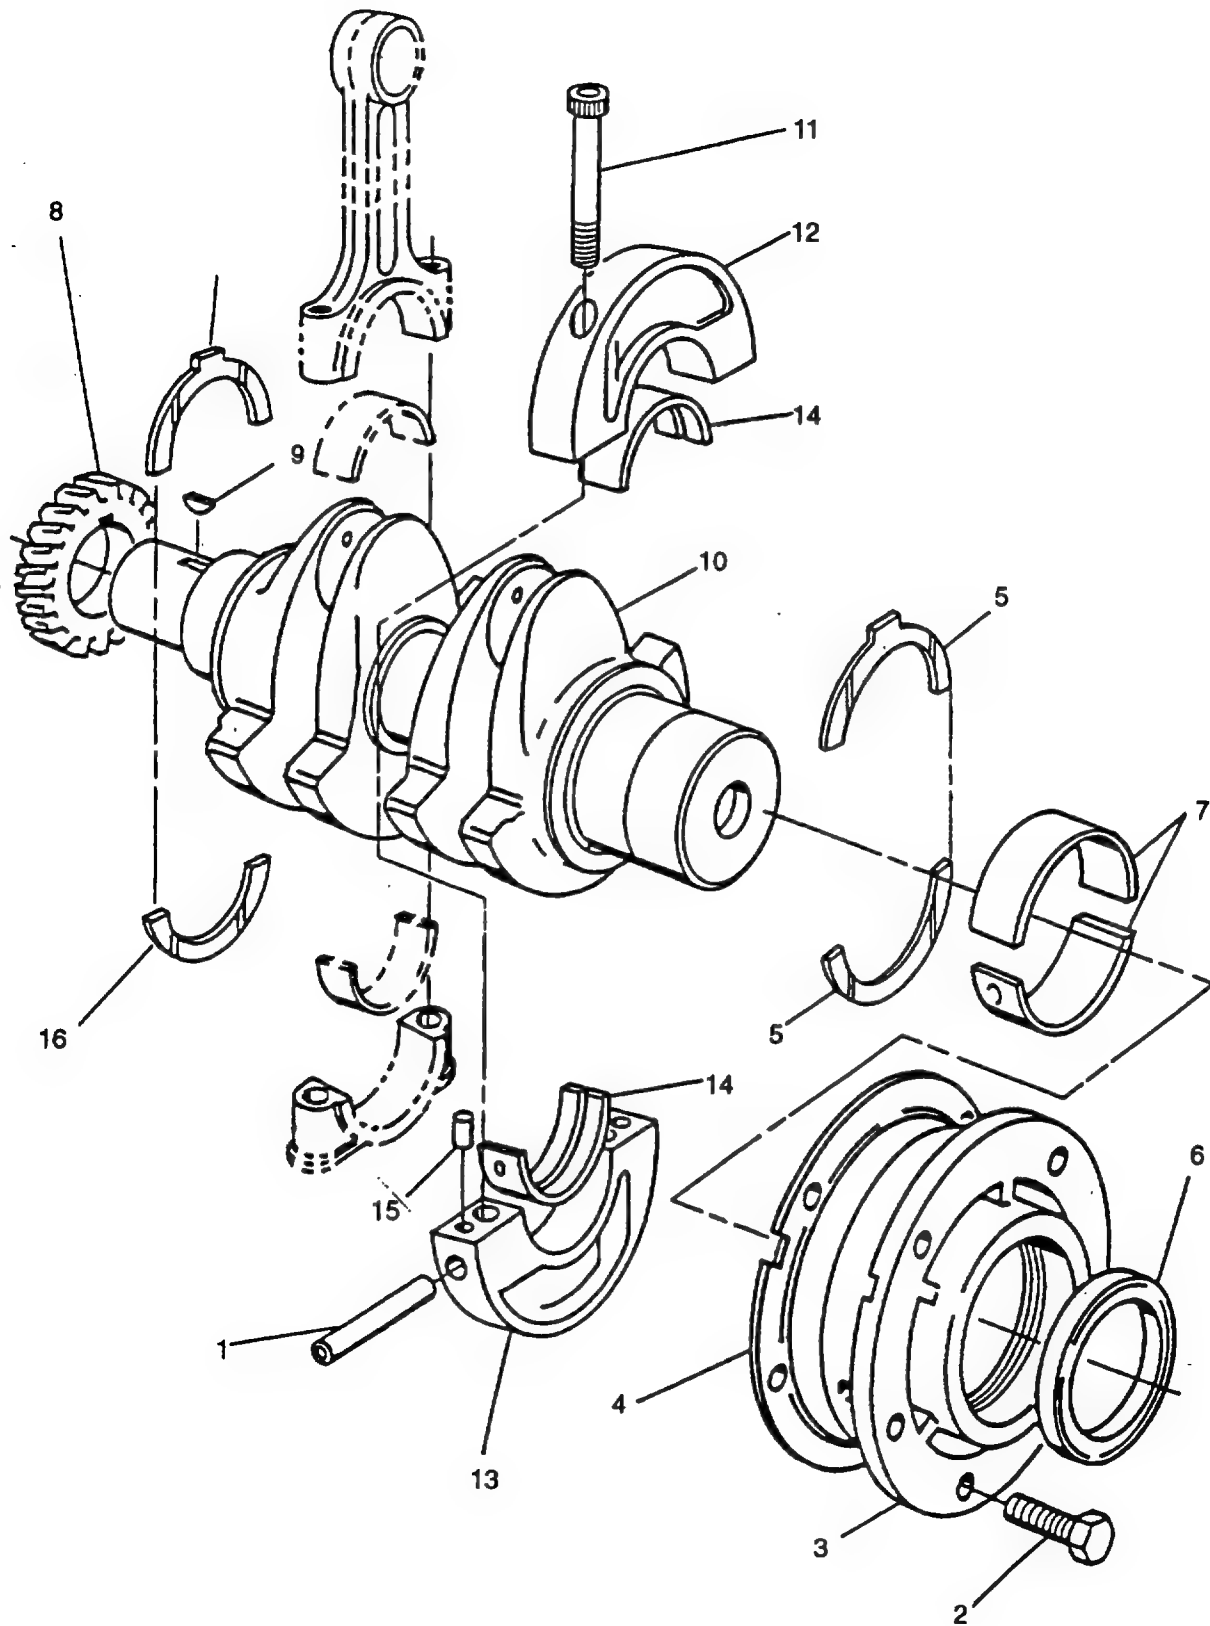

FIGURE 3-40. Crankshaft Assembly
- e. Remove five capscrews (2, FIGURE 3-40) securing main bearing housing (3).
- (3) Install bolt and dolly into bearing (7, **FIGURE 3-40**) from oil seal side (crankcase outside face).
- (4) Install bridge over bolt threads until two legs are against housing face.
- a. Install bearing (7) FIGURE 3-40 in main bearing housing (3) as follows:
- (1) Mount housing (3) in a soft-jawed vice with small oil feed hole facing up.
- (2) Place large tapered collar of main bearing tool (317-50111) on a bench with pilot facing up.
- (3) Place new bearing shells (7) into collar ensuring one oil feed hole is in line with pilot pin of collar and end of shell is in line with the mark on collar face.
- (4) Place driver onto collar with cutout on driver located over collar pilot pin.
- (5) Push driver sufficiently until bearings (7) come out other side of collar to provide a lead in.
- (6) Install assembly into housing (3) from oil seal side (crankcase outside face) with pilot pin in line with oil feed hole in housing.
- (7) Place bolt through assembly.
- (8) Install bridge, spacer, and nut onto bolt.
- (9) Tighten nut until driver is against face of collar.
- (10) Remove tool.
- i. Using a suitable puller, remove crankshaft pinion gear (8, FIGURE 3-40). Remove key (9) from crankshaft (10).
- Position new center bearing shells (14 FIGURE 3-40) on upper and lower housing. Install upper housing (12) and lower housing (13) ensuring words FLYWHEEL END are facing flywheel end of crankshaft (10). Secure with two capscrews (11) and tighten to 186 in-lbs (21.0 Nm).
- Install crankshaft (10) into crankcase from flywheel end. Ensure that center bearing locating tube hole is aligned with hole in crankcase.
- Apply a small amount of general purpose grease (630AA) to steel side of thrust bearings (16) and place them in gear end of crankcase with tab correctly located and copper face toward crankshaft (10).